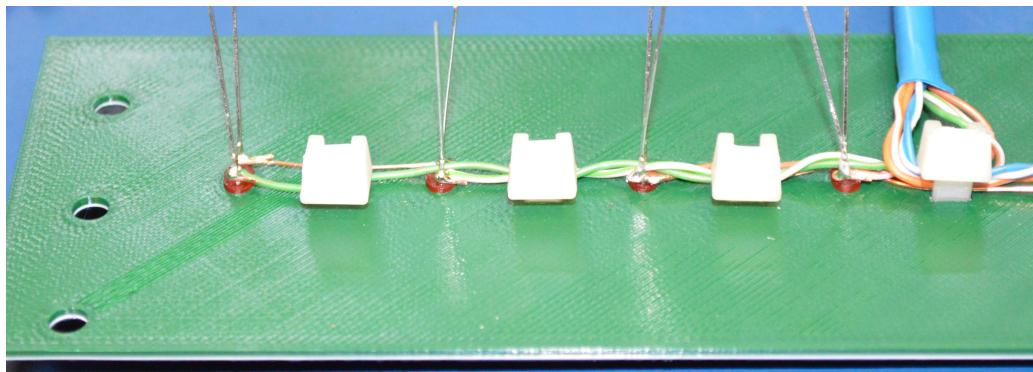

Figure 2.12: Solder the Remaining LEDs on That Side and Add Cable Ties
- Solder the remaining LEDs on that side and add cable ties between them. See Figure 2.12.